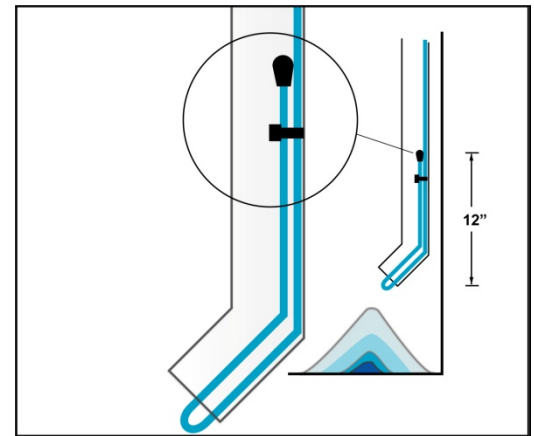

Figure 9: Downspout Termination
1. Run the heating cable in the gutters and into downspouts, end the cable in a loop at the bottom of the downspout and then run the cable back up the downspout using a tie wrap to fasten it as shown in Figure 9. Permanent attachment of the cable to the gutter bottom is not necessary. Do not leave the end of the heating cable pointing down at the end of the downspout, double back as shown.